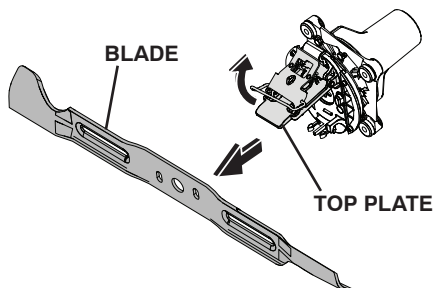

Fig. 18
- Open the top plate and remove blade. (See Fig. 18.)